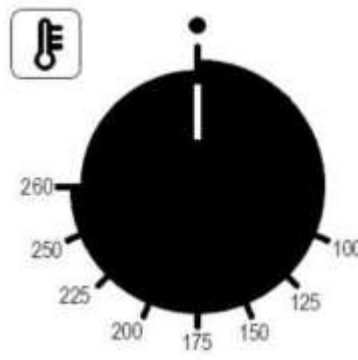

Fig.4
**Programming cooking temperature** - Turn the knob of the adjustment thermostat (Fig. 4) in line with the temperature selected for cooking.